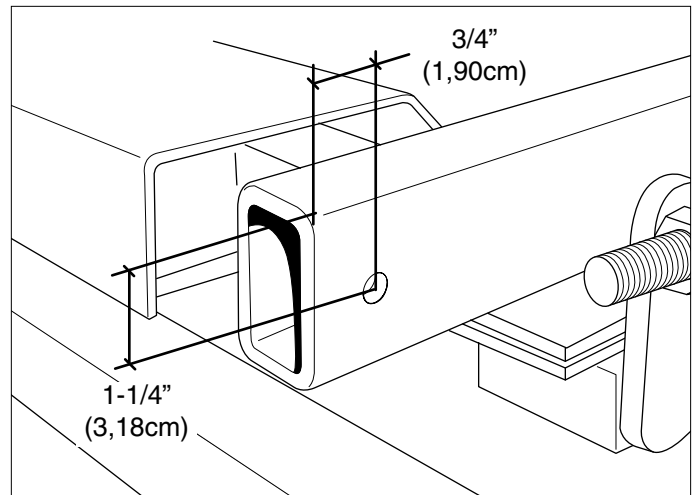

Figure 31. Hole Location
1. Measure and mark the front main frame tubes to the dimensions shown in Figure 31.
2. Using a 3/8" drill bit, drill one (1) hole in each of the main frame tubes from the outside surface of the tube.